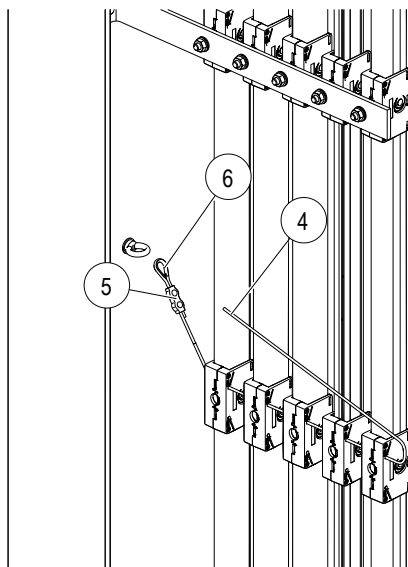

Fig. 41: Thread the safety rope (Item 4) through the fall arrest device.
- Thread the safety rope (Item 4) through the side holes in the housing halves and the retaining plates (see Fig. 41). Rope clamp (Item 5) and rope thimble (Item 6) are already pre-mounted at one end of the rope.